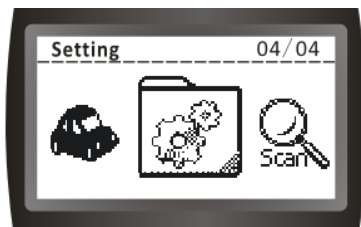

Figure 7
- 4、 Press  button, the screen will change to: "System setting" (Figure 7)